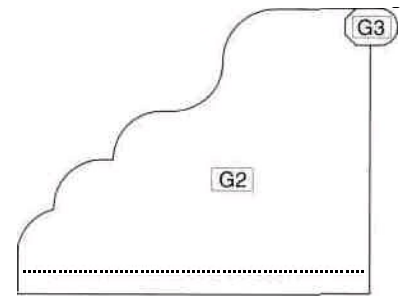

Fig. 5: Side visor with footrest
Step 29: Fold the glue tab of the right side visor [G2, Bogen 7] backwards and glue the footrest [G3, Bogen 7] with its grey part onto the marked place on the black rear of the side visor (see Fig. 5). Now the footrest is flush with one edge of the side visor and on the other side the gold-printed semicircular end protrudes beyond the edge. Then glue the right visor with its tab onto the right hand edge of the top cover so that at the rear it ends exactly where the top cover ends. At the front it just reaches the bend of the cover's hinge.